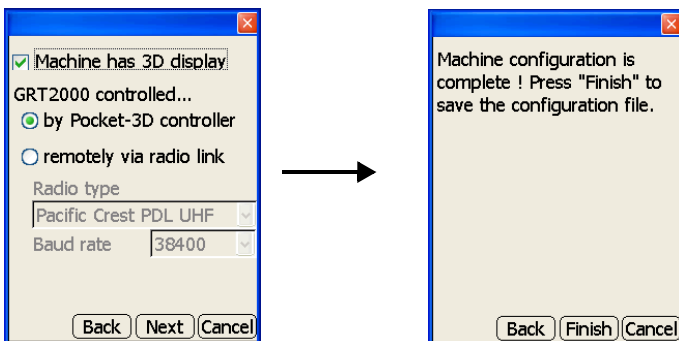

Figure 2-56. In-cab Display Dialog Box
5. On the *in-cab display* dialog box, enable the following selections, and press **Next** to continue (Figure 2-56):
6. Press **Finish** to save the configuration file (Figure 2-56). Pressing **Cancel** will cause the configuration’s information to be lost.